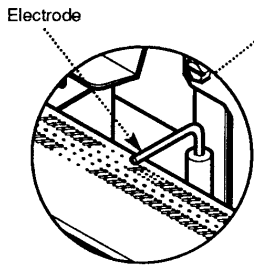

Fig. 21
2. Check that the electrode is sparking to the burner (Fig. 21) when the ignition (★) button is depressed for 2 seconds on the switch at the top right of the appliance.